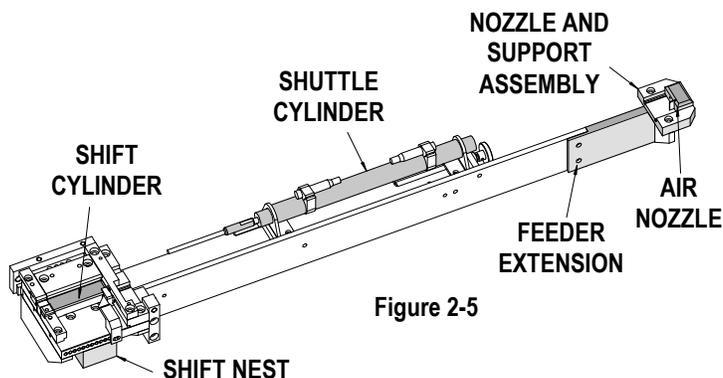

Figure 2-5
### Changing From Molex 25 inch Tubes To New Global Packaging Systems (564 mm) Tubes and Back (See Figure 2-5)
3. **"CONN. SHUTL"** (See Figure 2-5 and 2-10) This button operates the shuttle cylinder. Pressing it once extends the cylinder rod forward pushing the connectors into the termination nest. Pressing it the second time, retracts the cylinder rod to the rest position. (Interlocks: Terminal support must be down and insert cylinder must be retracted.)